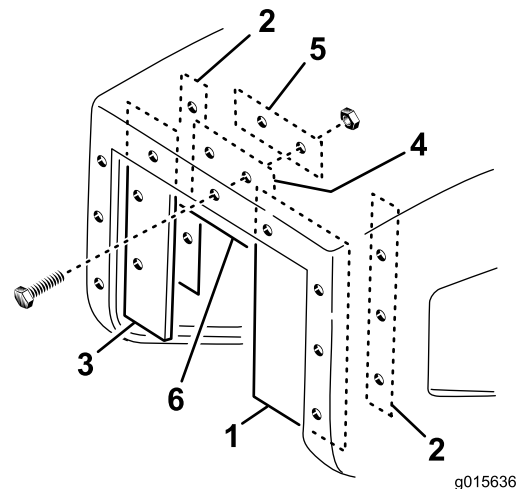

Figure 23
1. Secure the wide shield to the right inside lip of the hopper opening with a long flat, (3) #10 x 1 inch screws and #10 flange nuts (Figure 23).
2. Secure the narrow shield to the left inside lip of the hopper opening with a long flat, (3) #10 x 1 inch screws and #10 flange nuts (Figure 23).
3. Cut 1–1/2 inches of material off the bottom edge of the top shield. Secure the top shield to the upper inside lip of hopper opening with a short flat, (2) #10 x 1 inch screws and #10–24 flange nuts (Figure 23). Use the (2) mounting holes on the left side of the opening only.